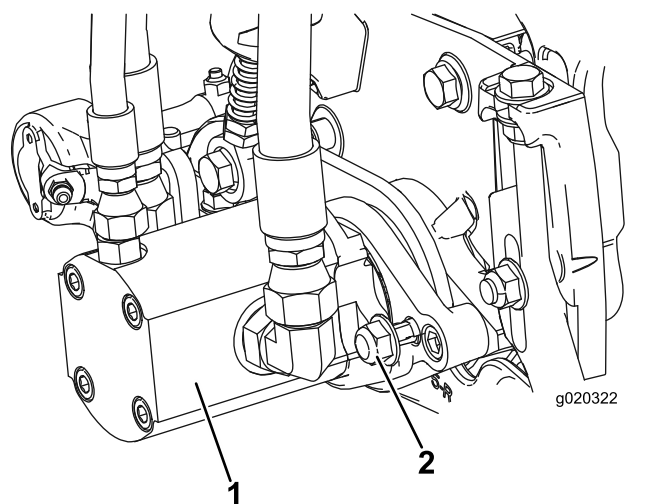

**Figure 12**
14. Secure the lift-arm chain to the chain bracket with the snapper pin (Figure 12).